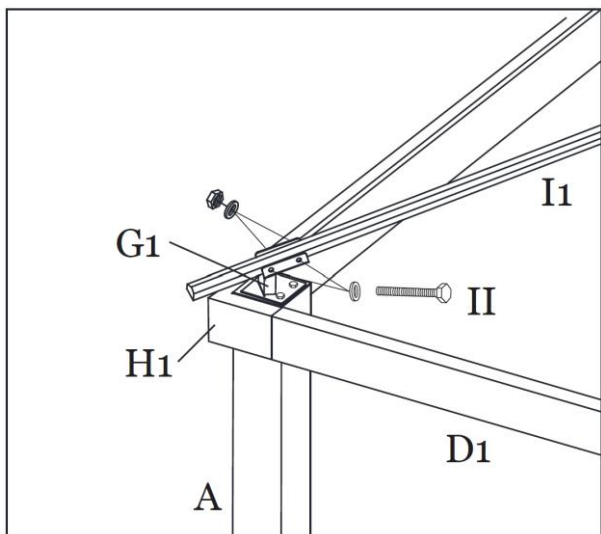

Figure 8-3
Step 8C: Attach the Main Roof Corner Support (I1) to the Connector Bracket (G1) using Bolts/Washers/ Nuts (II). See Figure 8-3.